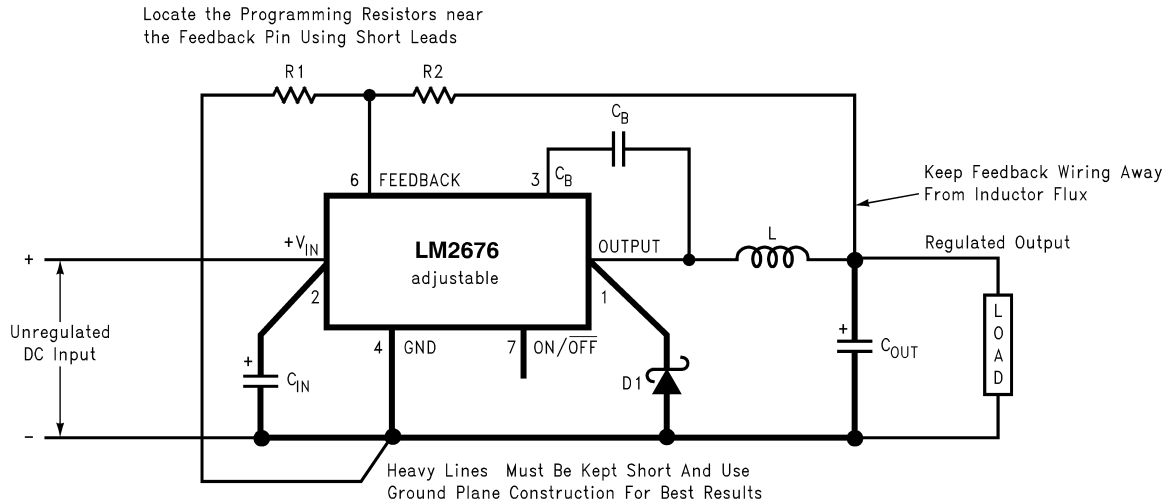

FIGURE 2. Basic circuit for adjustable output voltage applications
Step 2: Select an LM2676S-ADJ. To set the output voltage to 14.9V two resistors need to be chosen (R1 and R2 in Figure 2). For the adjustable device the output voltage is set by the following relationship: